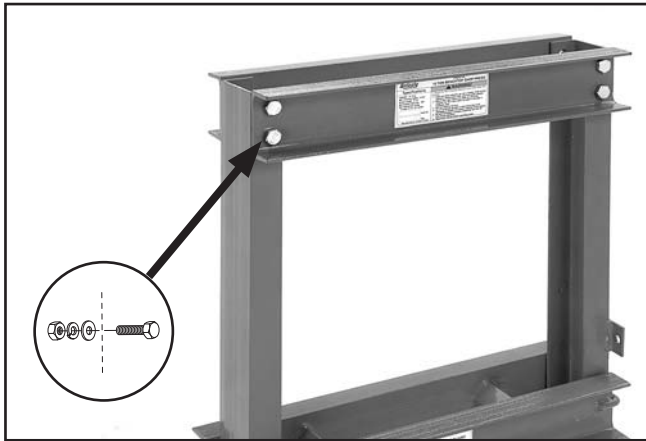

Figure 10. Upper U-beam installation.
- Swing the U-beams upward into alignment with the mounting holes, and install the remaining three M12-1.75 x 110 hex bolts with 12mm flat washers, lock washers, and hex nuts, as shown in **Figure 10**.